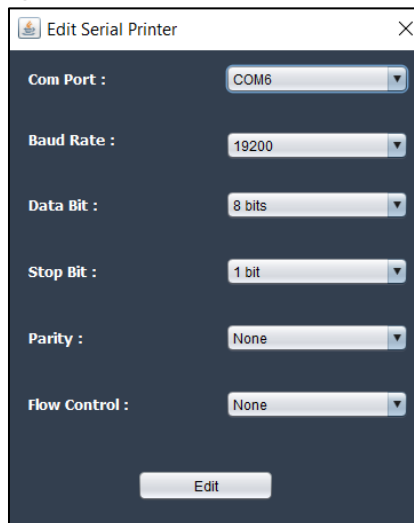
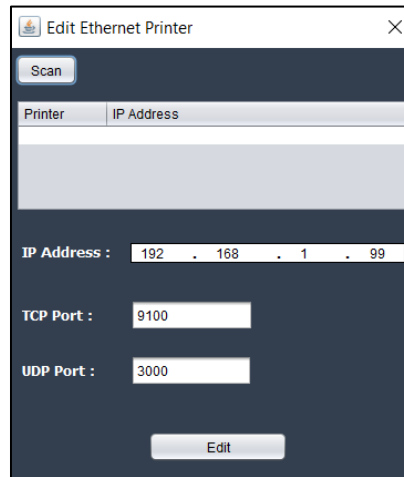

Figure 7 Edit Serial Printer Dialog
Figure 9 Edit Ethernet Printer Dialog
1. **Edit Printer.** It will pop out the edit dialog (*Figure 7 Edit Serial Printer Dialog & Figure 9 Edit Ethernet Printer Dialog*).
It will pop out the edit dialog (*Figure 7 Edit Serial Printer Dialog & Figure 9 Edit Ethernet Printer Dialog*) if the printer interface is Serial or Ethernet.